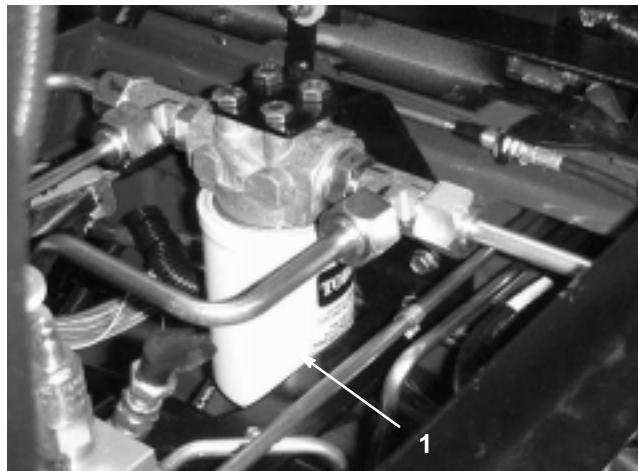

Figure 38
- Clean the area around the filter mounting area. Place a drain pan under the filter and remove the filter (Fig. 38 & 39).